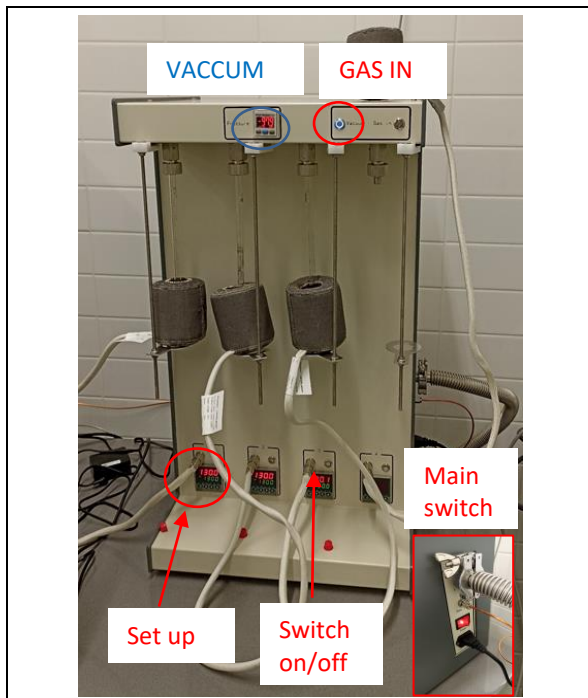
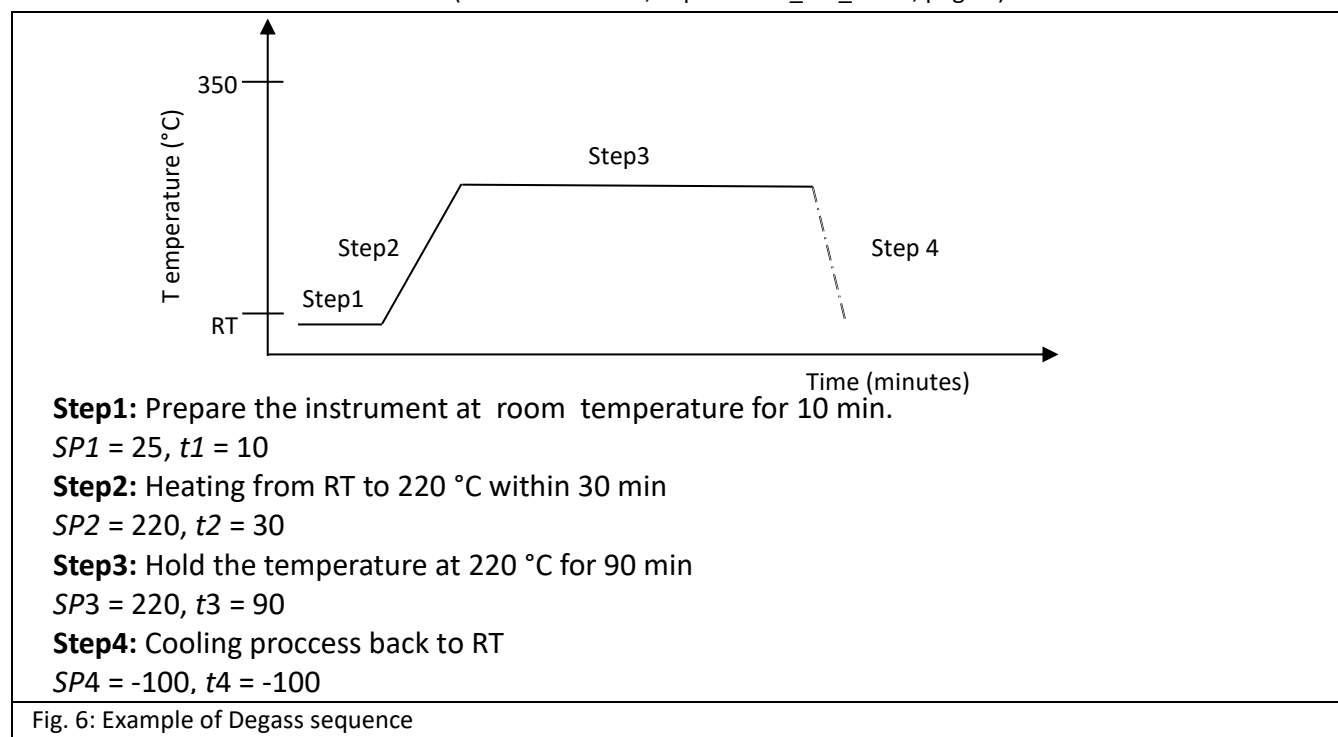

Fig. 3: Degasser. The explanation of primary functions.
Fig. 6: Example of Degass sequence
- Switch on the electrical plug labeled 'Degasser'** (behind the PC monitor): Switch on the degasser (Main switch on the right side of the instrument, Fig. 3).
- If the vacuum is ON,** Switch it off 'VACCUM,' push 'GAS IN,' and wait until the atmosphere pressure (around 0 kPa, green) is reached (Fig. 3). Switch off 'GAS IN' (no nitrogen goes to the room atmosphere). Only then the measuring cells could be removed. Never change the heating mantle from one port to another. The heating mantels are labeled.
- Switch ON** the exact degassing station (the upper button in the degasser display, Fig. 3). press RUN (⏏) to start the programmed degassing process. An example of a program is in Fig. 6.